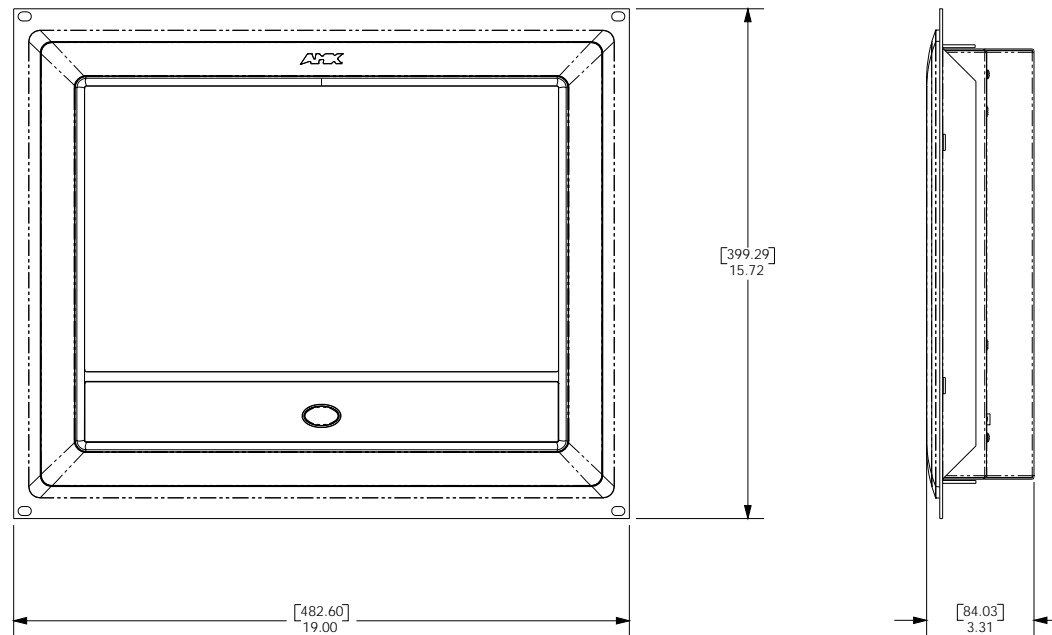

FIG. 62 NXD-1700VG Wall Mount panel installed into an NXA-RK17 Rack Mount Kit
6. Insert the main 17-inch Modero unit into the NXA-RK17 (FIG. 62).